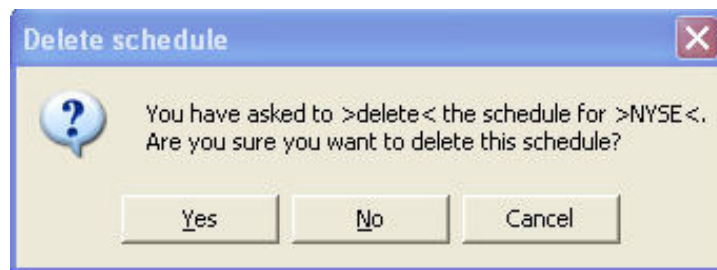

Figure 12-25
2. Click on the "Delete" key on your computer and a window like the one shown in Figure 12-25 will appear.